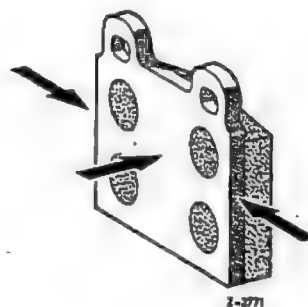

Fig. 42-10/22a
9. Rub Molykote Paste "U" on the points of the friction pad that are marked in Fig. 42-10/22a.
Note: The friction pads 1 for the front wheel brake have been provided with a rain groove. Friction pads without this groove can be remachined by means of a two-lipped 3 mm end mill. For groove width and depth see Fig. 42-10/26.